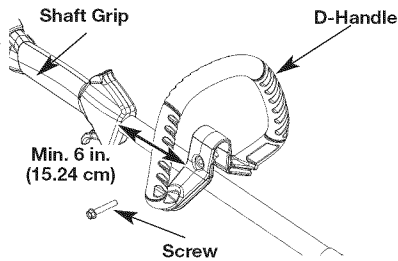

Fig. 1
1. Loosen the screws on the D-handle (Fig. 1).